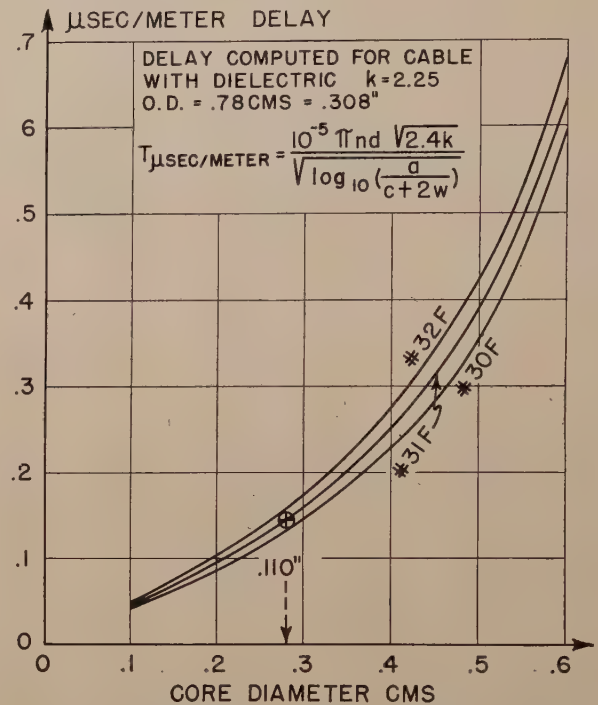

Fig. 7—Signal delay as function of core diameter.
1. As shown in Fig. 7, the delay per unit length of cable rises rapidly with the diameter of the core, due both to increased coil diameter (increased inductance) and to closer capacitor spacing (increased capacitance). The larger the delay, the further the spacing of echoes due to improper terminations.